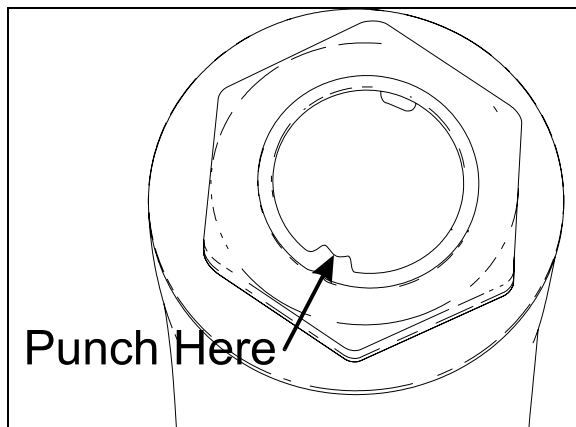

FIGURE 6: FIXING NUT PUNCH MARK
3. Lock nut with sector shaft using a punch mark into the groove (refer to figure 6).